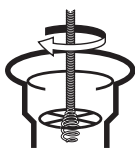

Figure 2
- Thread through crosshairs (Figure 2).